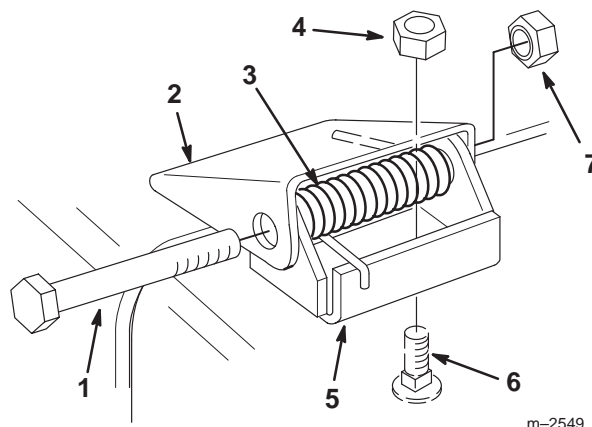

Figure 56
1. Remove the locknuts, bolts and springs holding the deflector mounts to the pivot brackets (Fig. 56).
2. If the pivot brackets need to be replaced, remove the carriage bolts and cone locknuts holding the old brackets to the top of the discharge opening, then install the replacement pivot brackets. Make sure the carriage bolt heads are on the inside of the cutting unit (Fig. 56).
3. Install the deflector mounts onto the pivot brackets with the bolts, springs and locknuts. Make sure the straight ends of the springs are positioned between the deflector mounts and the grass deflector (Fig. 56).
4. Tighten the locknuts until they contact the pivot brackets (Fig. 56).